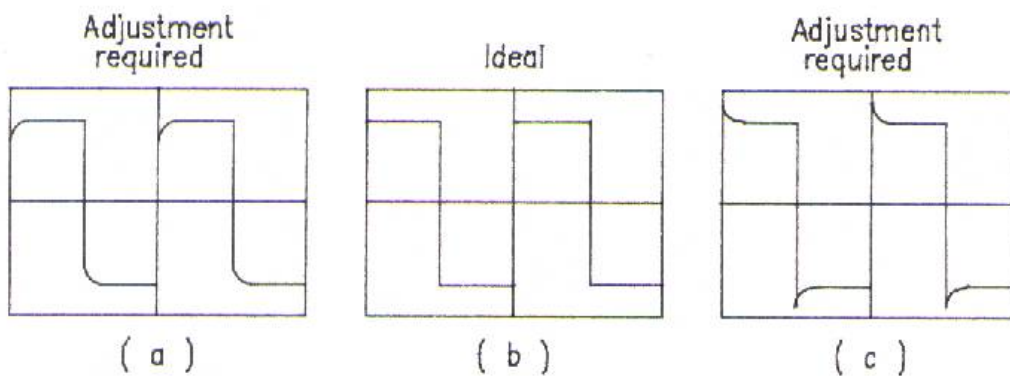

Fig. 10
- f. Adjust VC1 to make the displayed waveform become as Fig 10(b).
- h. Adjust VC2 to make the displayed waveform become as Fig. 10(b).